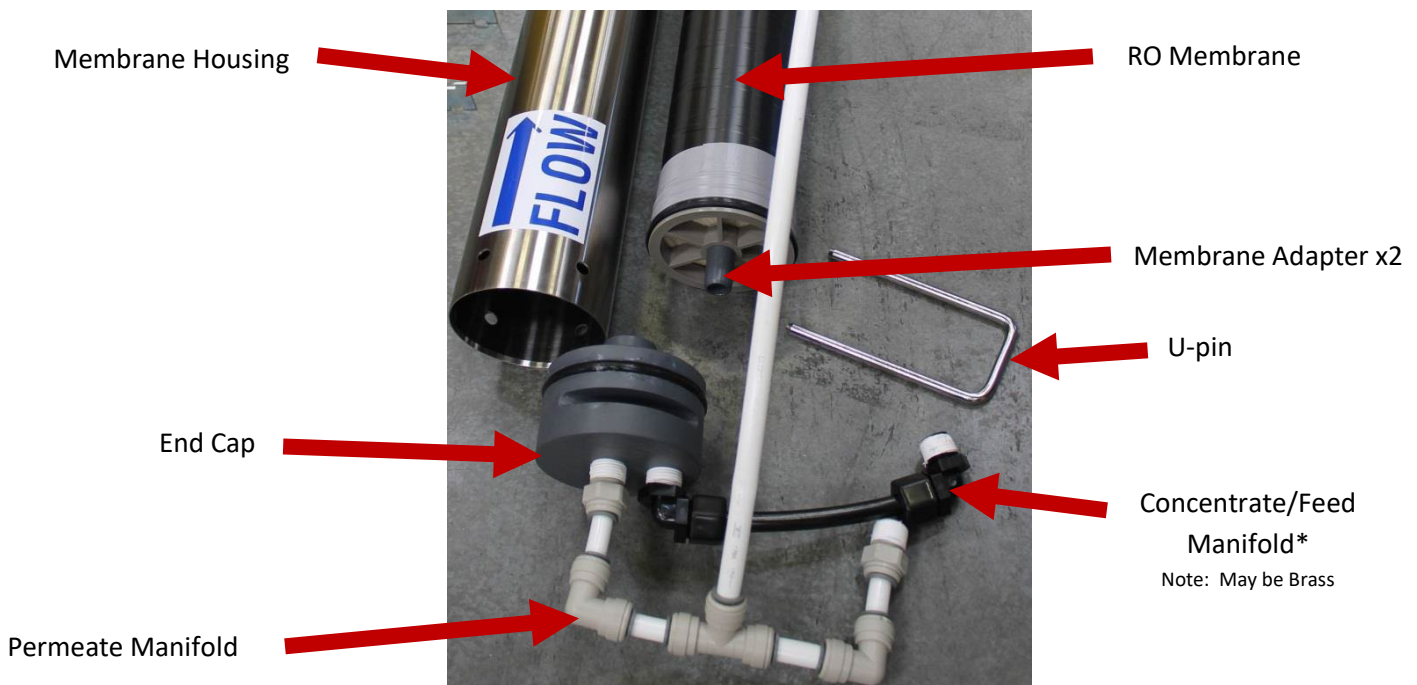

Figure 1
- c. Remove new HGC741671 membrane from packaging and prepare for installation by lightly lubricating the membrane brine seal & both Membrane Adapter ends with DOW Molykote 111 lubricant. Refer to 'Figure 1'.